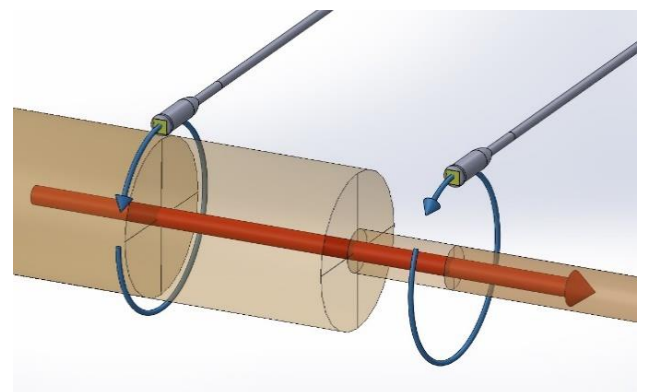

Fig.4 Relation between sensing distance and conductor diameter
- If the distance between the center of the conductor and the sensitive area is constant, As shown in Fig.4, the sensitivity does not change even if the conductor diameter is changed. Fig.4 shows that the sensitivity does not change even if the conductor diameter changes.